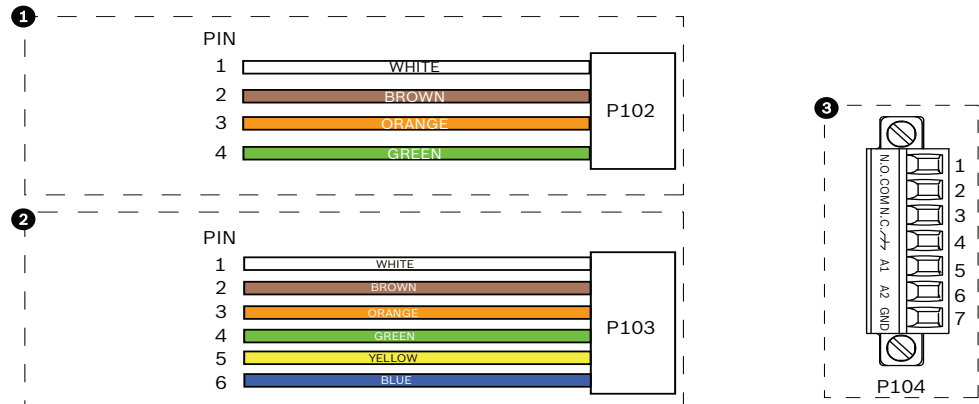

Figure 2.3 Alarm and relay connectors
- If you are connecting supervised alarms and relays, attach the supplied 7-pin Relay Connector to the appropriate incoming wires. See *Figure 2.3, Page 19*, above, for the wire connections. See *Section 6 Alarms and Relay Connections, page 96* for more details about wiring alarms and relays.